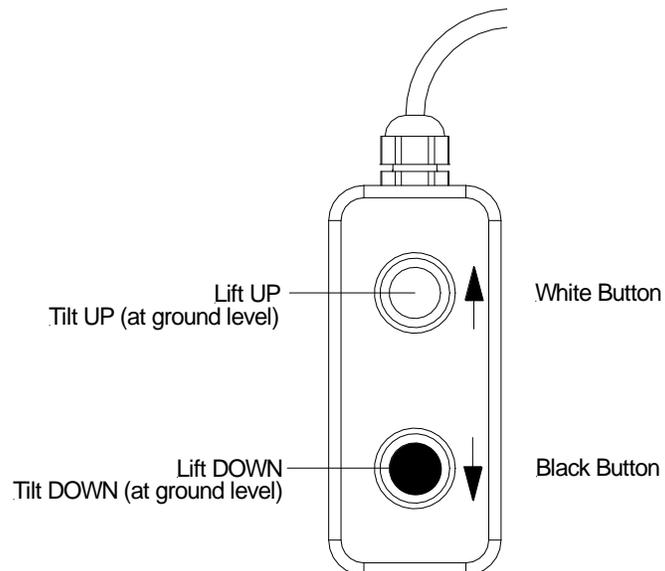

**Fig.14**
- Use the **UP** function on the toggle switch to raise the platform to stored position, **Fig.14**.